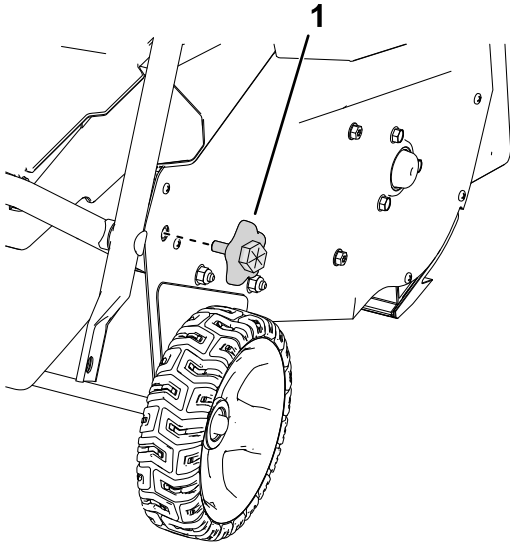

Figure 5
4. Remove the lower handle knobs from both sides of the machine (Figure 5).